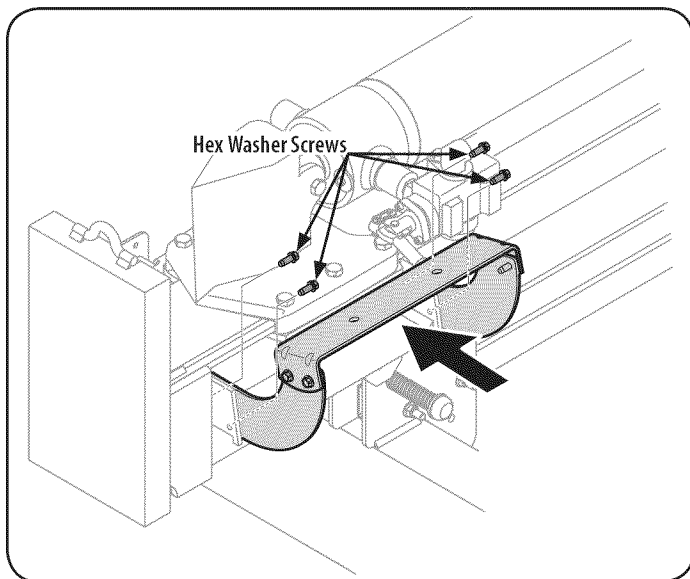

Figure 9
20. Reattach the log cradle to the side of the beam with the control valve, aligning the holes in the cradle with the holes in the beam. See Figure 9.